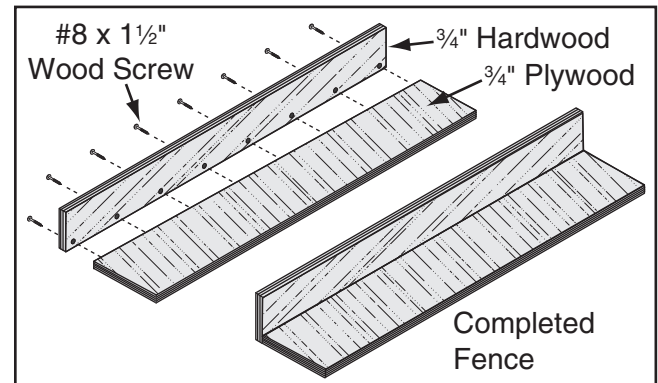

Figure 109. Location of pilot holes.
2. Pre-drill and countersink eight pilot holes $\frac{3}{8}$ " from the bottom of the 3" wide board, then secure the boards together with eight #8 x $1\frac{1}{2}$ " wood screws, as shown in **Figure 109**.